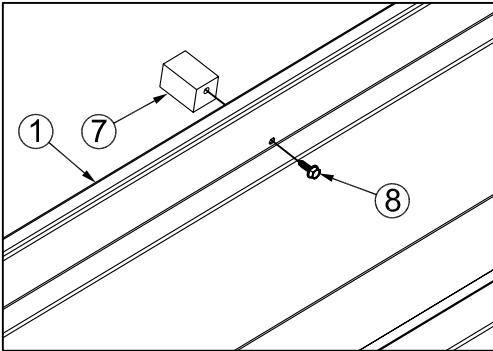

Fig. 1
1. Attached Rubber Spacer (#7) to the Toolbox (#1) using the 5/16 screw (#8). Torque screw to 50in-lbs. (See Fig 1)